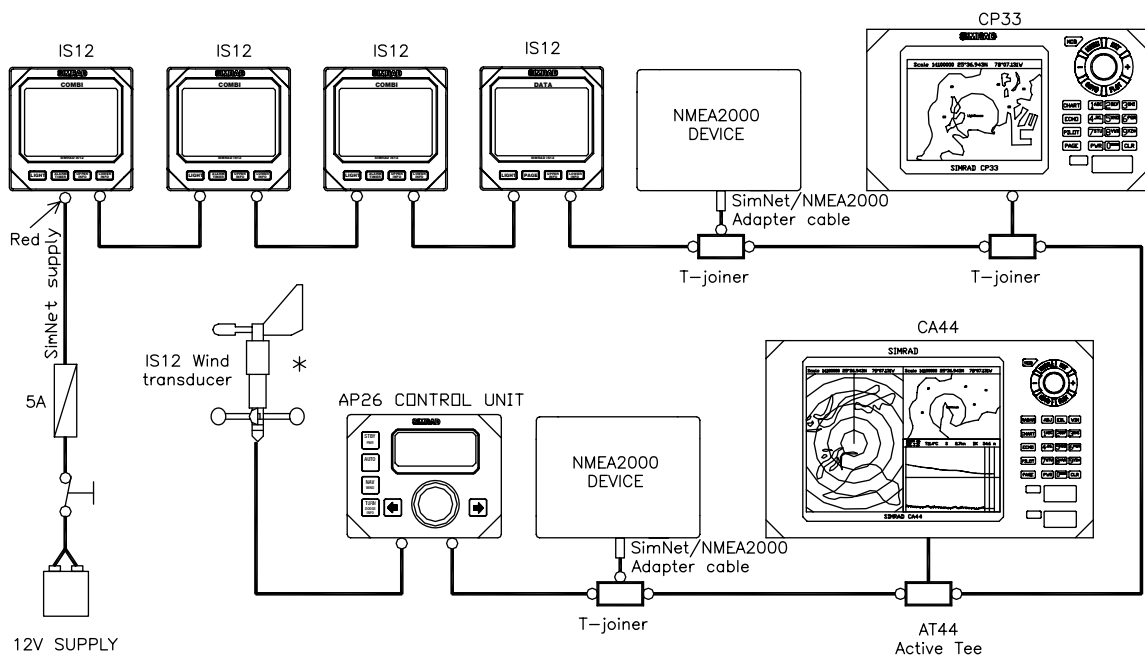

Figure 3-19 SimNet/NMEA2000 network, medium system
4. A SimNet/NMEA2000 adapter cable (page 125) is required to connect a NMEA2000 device to SimNet, see Figure 3-19. The cable is available at your SimNet dealer.